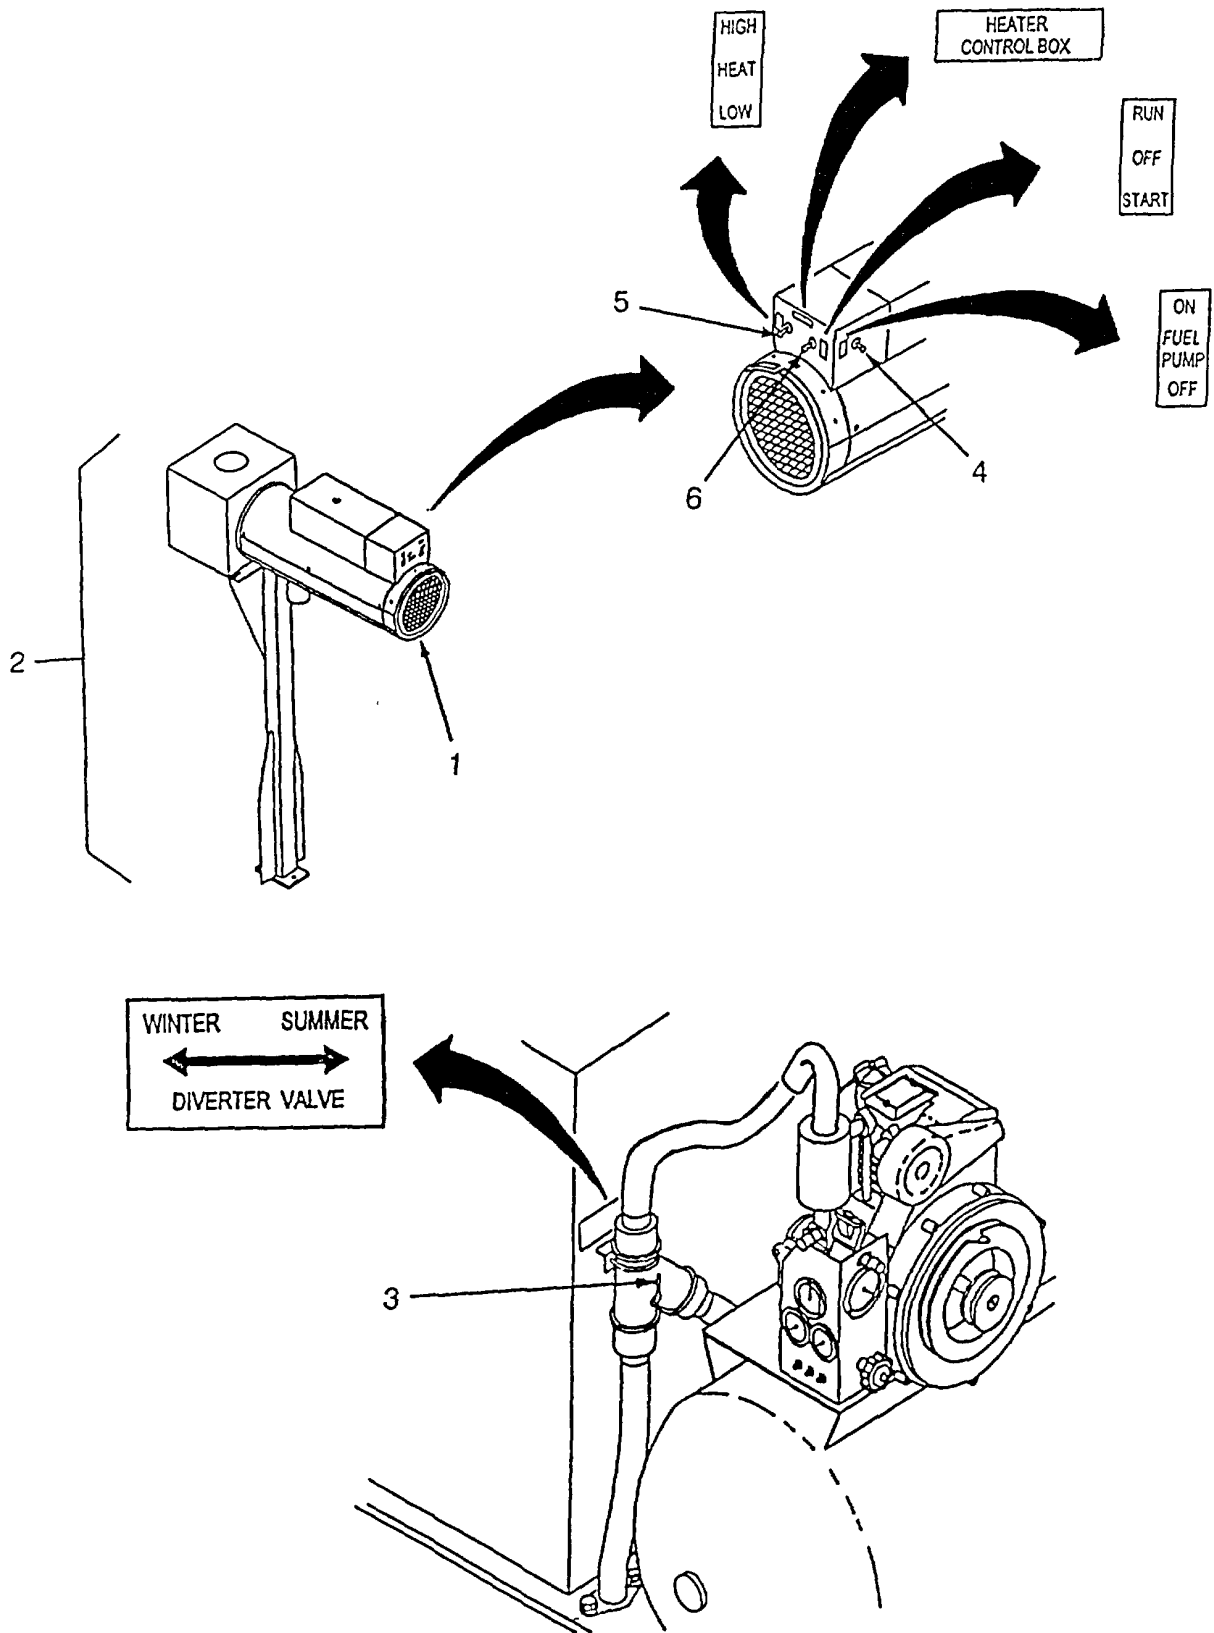

Figure 2-35. Winterization Assembly and Heater
- (8) While holding glow plug button (7) and decompressor lever (8), push engine start button (9) When engine cranks at a sufficient speed, release the decompressor lever (8).
- (9) Continue to crank engine by depressing the engine start button (9) and glow plug button (7) until engine starts; then release glow plug button (7) and engine start button (9).
- (10) Refer to paragraph 2-9.a.(1) (f) (i).
f. WINTERIZATION ASSEMBLY AND HEATER (See Figure 2-35.)
- (1) For cold weather missions, use the heater (1) located on the winterization assembly (2).
- (2) To operate the heater (1), first switch the exhaust diverter valve (3) to the left "winter" position.
- (3) Turn the fuel pump switch (4) to "on" position.
- (4) Flip the "run-off-start" switch (6) to "start" position and hold 2-4 minutes until heater combustion begins.
- (5) When the heater (1) starts, (that is, the fan speed increases), move the "run-off-start" switch (6) to "run" position.
- (6) Flip high-low heat selector switch (5) to position desired as determined by the temperature.
- (7) If the heater (1) fails to start after holding the "run-off-start" switch (6) in the "start" position for 4 minutes, move the "run-off-start" switch to the "off" position and wait a minimum of 15 minutes before attempting to restart the heater as outlined above.
- (8) If the heater (1) fails to start on the second attempt do not continue the starting procedure until unit maintenance has been notified of the problem.
- (9) After heater has started (Refer to para. 2-12.1.d. (3 through 9).
g. WINTERIZATION ASSEMBLY AND HEATER SHUT DOWN NORMAL (Refer to figure 2-35.)
- (1) Turn the fuel pump switch (4) to "off" position.
- (2) Flip "run-off-start" switch (6) to "off" position. Blower will continue to run until the heater has purged itself of fuel.